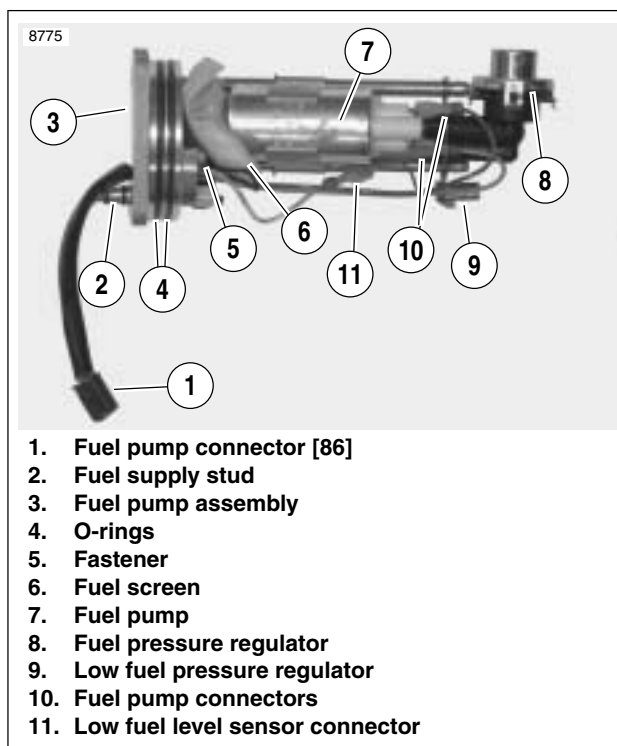
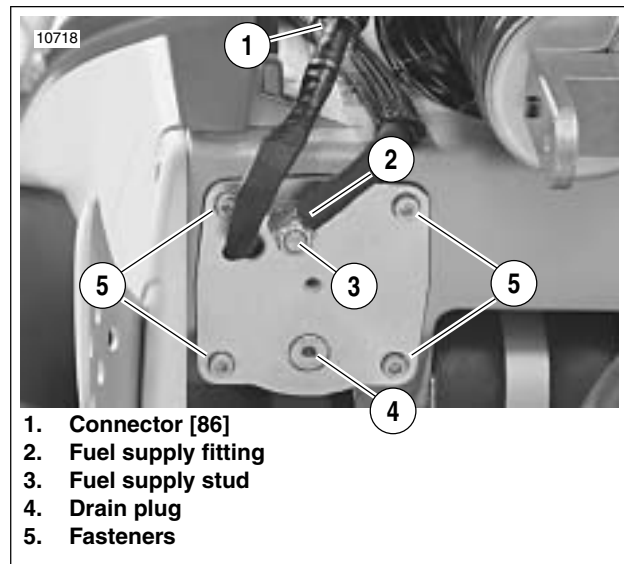

Figure 4-87. Fuel Pump Assembly (left side)
Figure 4-93. Fuel Pump Installation
2. See Figure 4-87. Pry four tabs of clip holding fuel pressure regulator (8) in place. Detach regulator from regulator housing.
4. See Figure 4-87. Disconnect fuel pump connectors (10) and low fuel level sensor connector (11).
6. Pry fuel screen (6) from fuel pump (7).
11. See Figure 4-87. Connect low fuel level sensor wiring (11).
12. Connect fuel pump connectors (10). Connectors are two different sizes.
4. See Figure 4-87. Disconnect fuel pump connector (10) and low fuel level sensor connector (11).
- b. Insert push pin/safety pin (1), into connector as shown.
8. See Figure 4-87. Remove screw (5).
11. See Figure 4-87. Insert **new** fastener (5), through ground wire terminal and secure to fuel pump assembly. Tighten to 18-22 **in-lbs** (2.0-2.5 Nm).
16. See Figure 4-87. Connect low fuel level sensor connector (11).
17. Connect fuel pump connectors (10). Connectors are two different sizes.
1. See Figure 4-87. Replace o-rings (4). Lubricate **new** o-rings with **clean** engine oil.
2. Install **new** o-rings on fuel supply stud (2). Larger o-ring is located in groove closer to fuel pump.
3. See Figure 4-93. Insert fuel pump into frame until resistance is felt.
4. Insert four screws (5) through fuel pump and into frame.